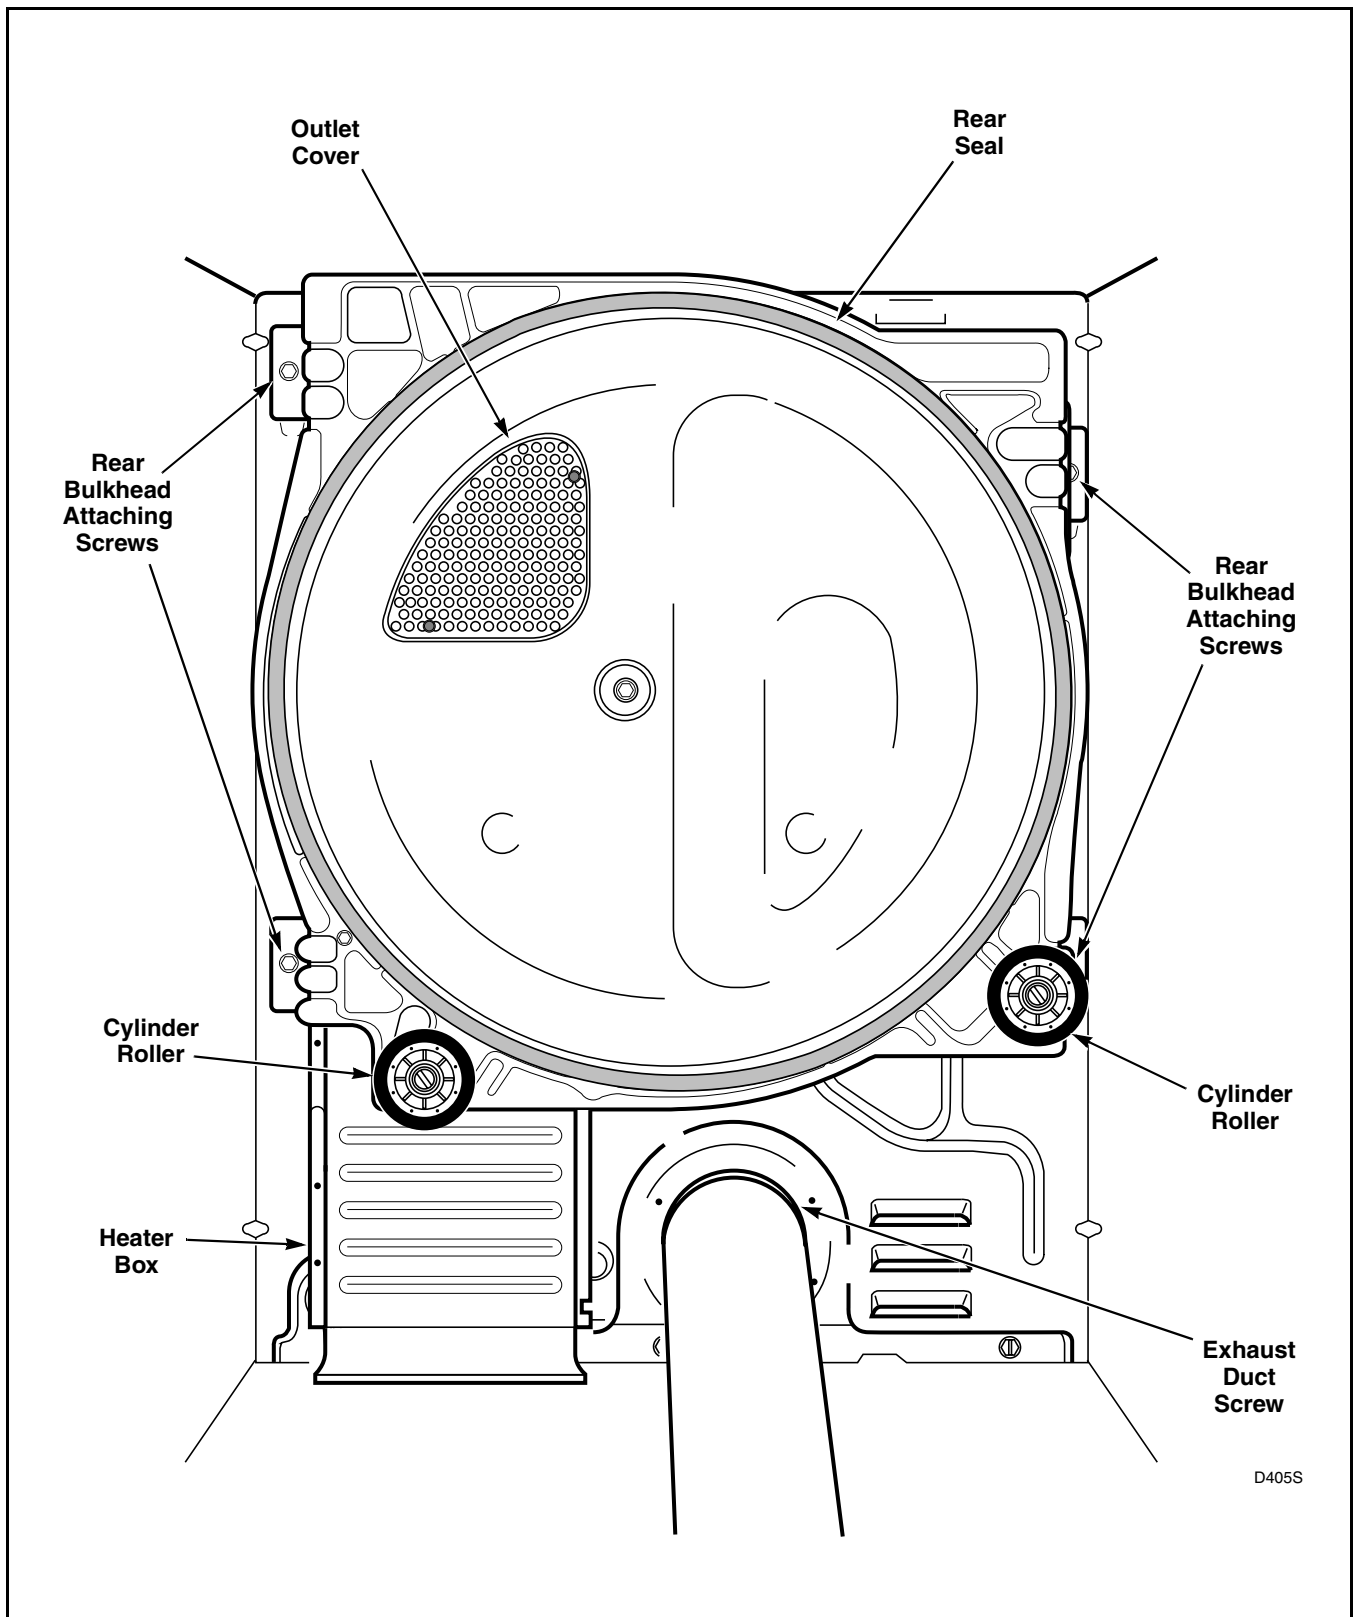

Figure 53
- j. Pull rear cylinder seal from flanged edge of bulkhead. Refer to *Figure 53*.
- Open door and remove two screws holding outlet cover to rear bulkhead. Refer to *Figure 53*.
- k. While supporting bulkhead, remove the four screws holding rear bulkhead to dryer cabinet, then lift complete assembly out of dryer. Refer to *Figure 53*.